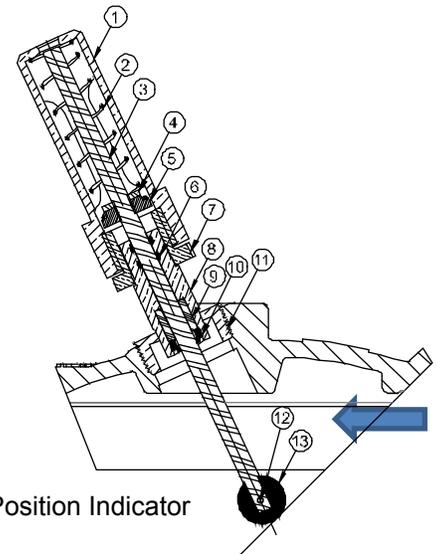

Fig. 4 Position Indicator
The optional valve disc Position Indicator (PI) mechanical indicator is factory (see Fig 4) installed but can also be installed in the field. The Position Indicator visually indicates to what degree the valve disc is opened or closed. The device is installed on the access cover and can be installed in the field by going through the following steps:
3. Apply pipe joint compound to position indicator body (11) threads.
4. Insert the position indicator body (11) and thread in-place.
\*For Position Indicator details see Fig.4